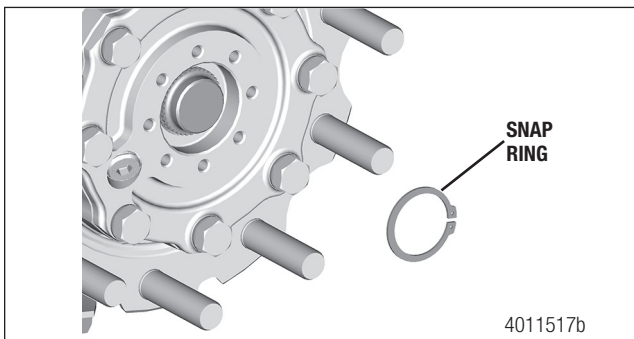

Figure 8.31
4. Install the snap ring onto the end of the axle shaft. Figure 8.31. Ensure the snap ring is positioned in the groove at the end of the axle shaft.